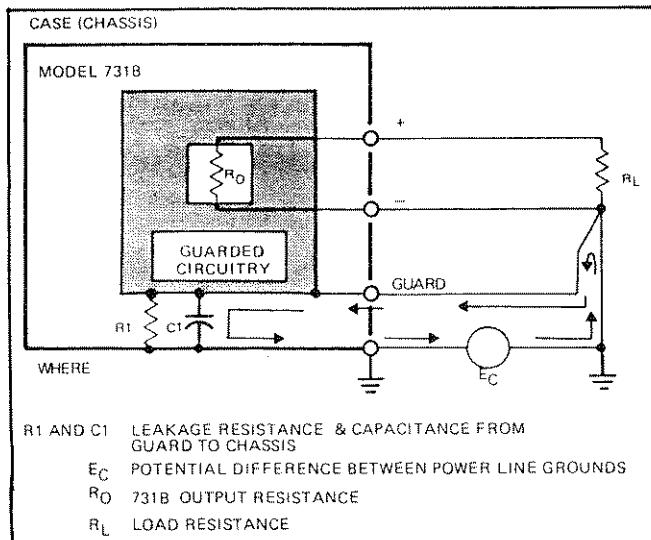

Figure 2-2. GUARD CONNECTION
- 2-17. One of the most common cases requiring guarding is that of differences in power line grounds. When the 731B is connected to another instrument, with both instruments grounded through their respective power cords, a potential difference may exist between the power line grounds of these two instruments. This potential difference can cause circulating ground currents which could cause errors in the output voltage. To prevent these errors from occurring, the 731B GUARD terminal should be connected to the load in such a manner as to provide a separate path for circulating ground currents. For proper connection, connect GUARD terminal directly to grounded side of load, at the load. Figure 2-2 illustrates correct GUARD terminal connection and the rerouted ground currents.